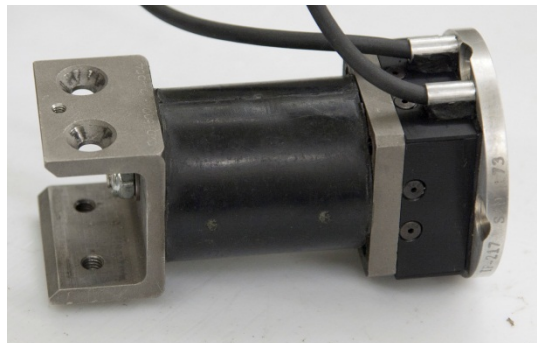

Figure 145. Installing lumbar load cell to lumbar spine
- Mount the headform to the lumbar spine using two lumbar spine mounting screws⁴² (Figure 145). Be certain these screws are tight so that the headform does not slip in the mount.